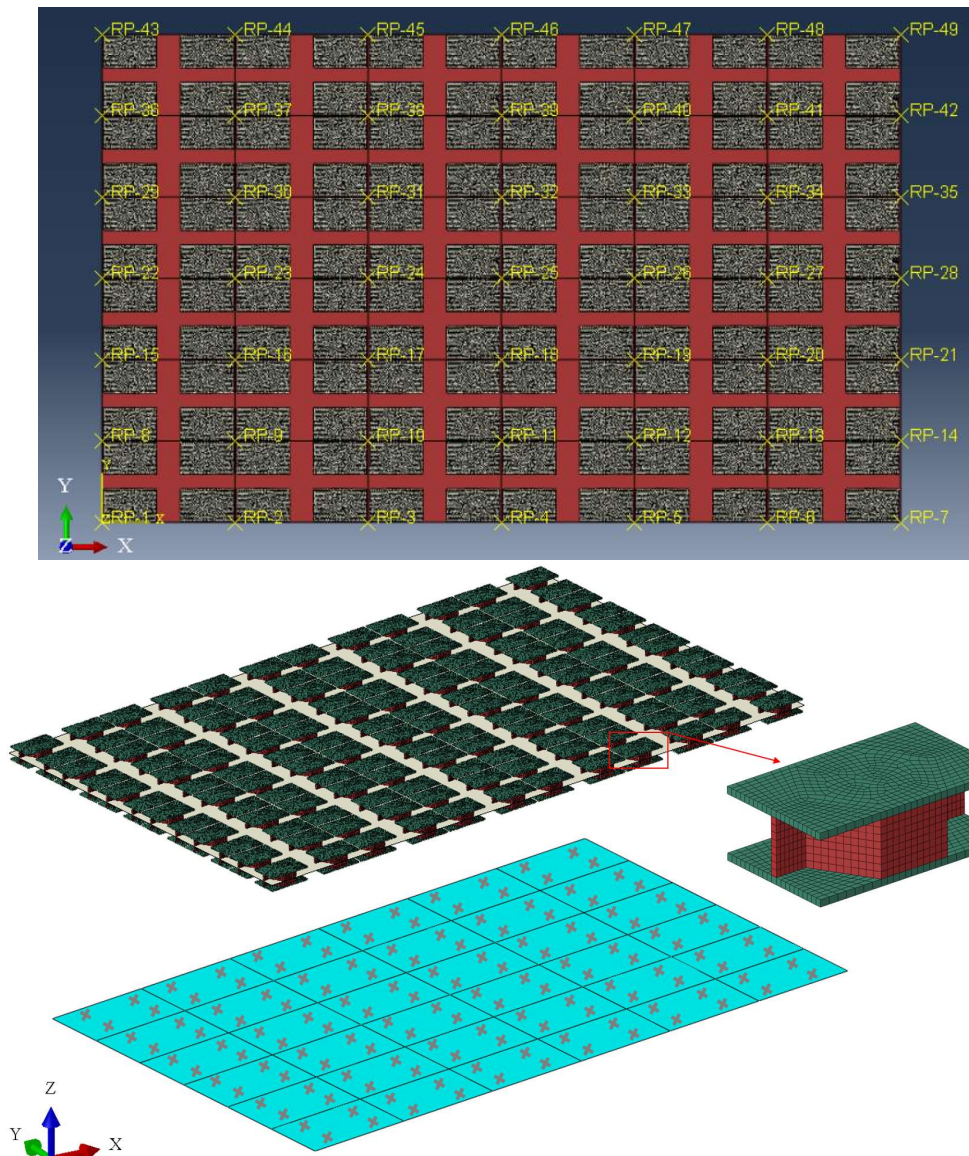

Fig.5 The Direct  $FE^2$  model after constructing RVE
- (13) Input the file names for element connectivity file (needed for applying the MPCs for the second step) and FE2 model generation python file when prompted.
- (14) Update '0' for full integration super element- 4 Gauss point RVEs (this case) or '1' for reduced integration super element( 1 Gauss point RVE at centre) as shown below when prompted by the code.
- (15) Update 1 for linear interpolated super elements and 2 for quadratic interpolated super elements
- (16) The code will prompt you to input Model name (Eg: Model-1) in which you want to create the FE2 model and part-name (Eg: Part-2) of the RVE. In the example above, Model-1 needs to contain Part-1. If this error message pops up-'Part dimensionality does not match the dimensionality of the existing instances'- it means that your RVE and macro part are of different dimensionality (2D, 3D). Go to part definition and edit the dimensionality.
- (17) Run the .py script generated in the previous step in ABAQUS. The Direct FE2 model can be seen in the assembly as shown in Fig.5, corresponding to the macro-scale part.